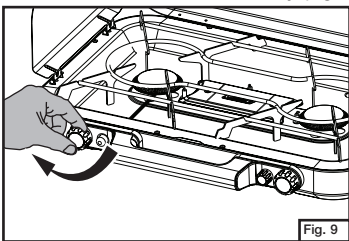

Fig. 9
- Close all three burner valves firmly. (Fig. 9)